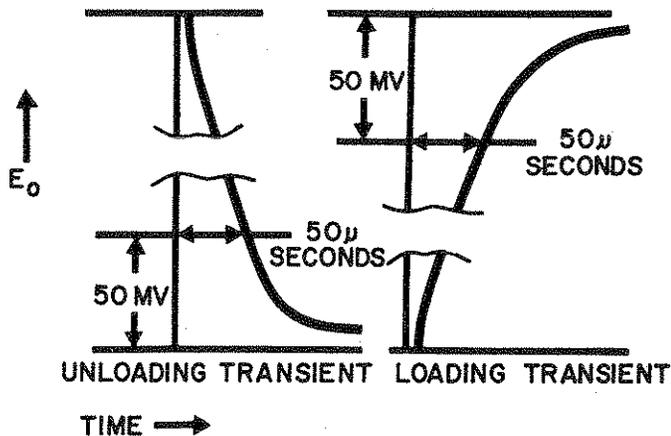

Figure 5-2. Transient Recovery Waveform Diagram
e. Recovery time on the oscilloscope display should not exceed 50µs as shown in Figure 5-2.